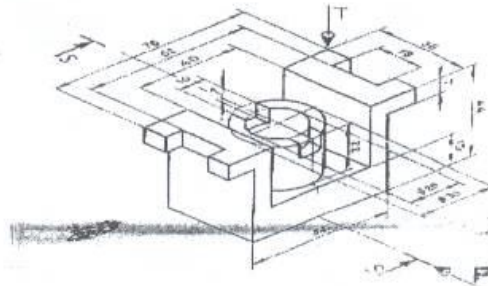

Fig.1(b)
- b. Fig.1(b) shows pictorial view of a machine part. Draw the following views of the part to full size: i) Front view ii) Sectional view along SS iii) Top view. The centerhole of 20 mm $\Phi$  can be taken as a through hole. (20 Marks)